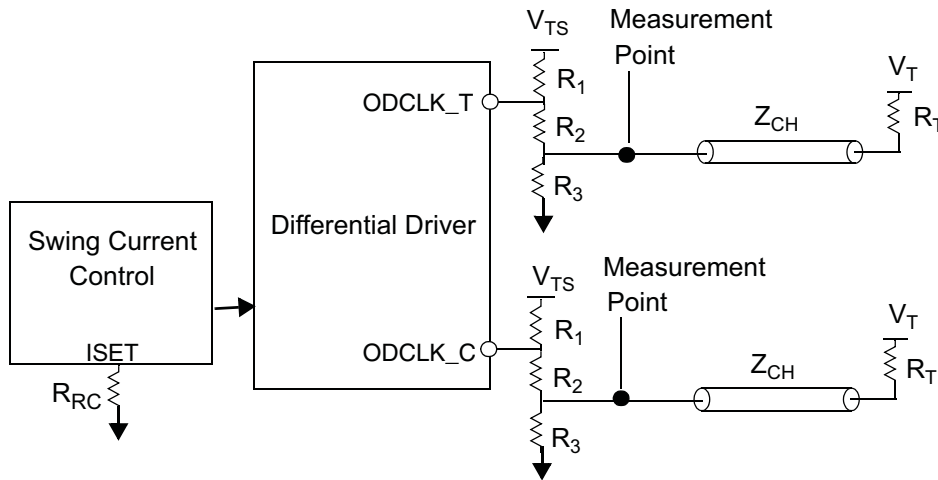

Figure 2. Example System Clock Driver Equivalent Circuit
- 1 When using singled-ended clock input, V_{TH} is supplied to CLK_INTC as shown in Figure 2. Duty cycle of singled-ended CLK_IN is measured at V_{TH}.
Figure 2 shows the clock driver equivalent circuit. The differential driver produces a specified voltage swing on the channel by switching the currents going into ODCLK_T and ODCLK_C. The external resistor R_{RC} at the IREFY pin sets the maximum current. The minimum current is zero.
The driver output characteristics are defined together with the external resistors, R_1 , R_2 , and R_3 . The output clock signals are specified at the measurement points indicated in Figure 2. Table 5 shows example values for the resistors.
- 1 A different set of resistors is used in Figure 2 when testing for maximum output current of the clock driver (I_{OLABS}). These resistors are: $R_1 = 23\Omega$, $R_2 = 36.5\Omega$, $R_3 = 52.3\Omega$, $R_T=28\Omega$, $R_{RC} = 118\Omega$
For a single-ended clock input, an external voltage divider and a supply voltage, as shown in Figure 2, provide a reference voltage V_{TH} at the CLK_INC pin to determine the proper switching point for CLK_INT. The range of V_{TH} is specified in the **DC Characteristics – Inputs** table.